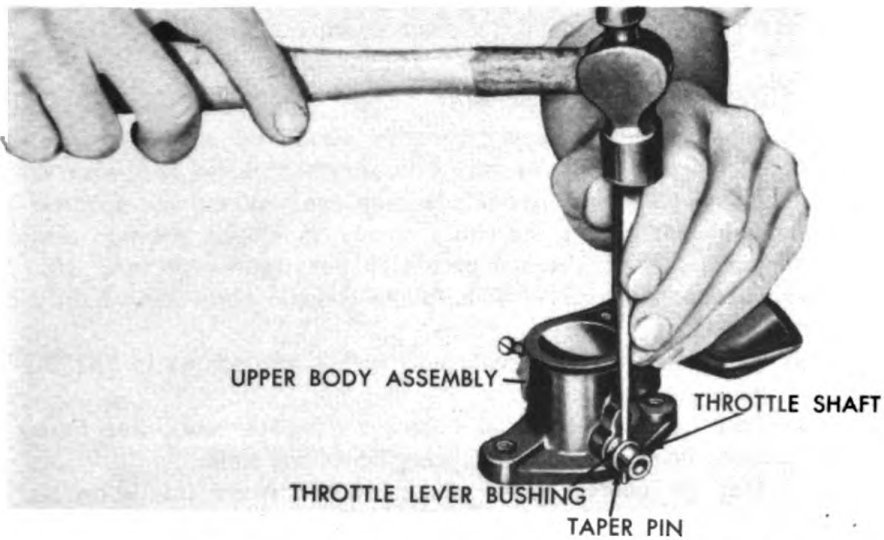

Figure 286. Removing Carburetor Throttle Shaft Pin.
- e. Remove throttle plate screws, throttle plate and throttle shaft assembly. (Do not disturb economizer tube or dash adjustment needle housing). See figures 286 and 287.